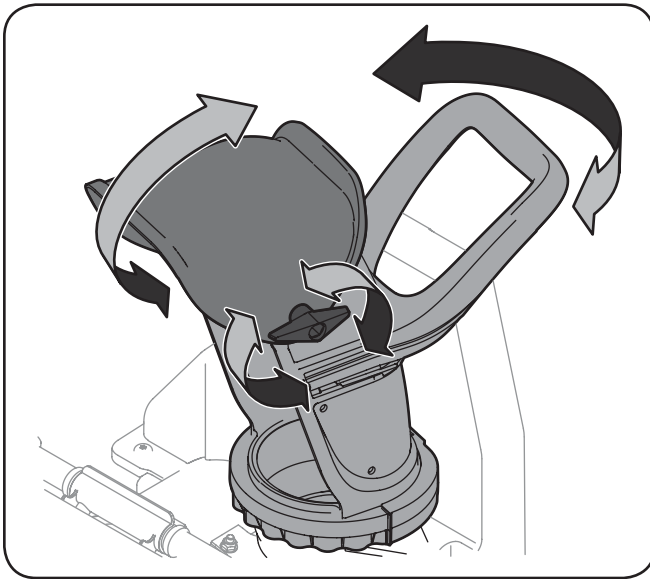

Figure 3-8
2. Tighten the wing knob on the upper chute making sure the carriage bolt on the inside of the discharge chute is correctly positioned. Refer to Figure 3-8.
3. To adjust the direction that the snow will be thrown, use the handle on the upper discharge chute to control the direction of the discharged snow. Refer back to Figure 3-8.